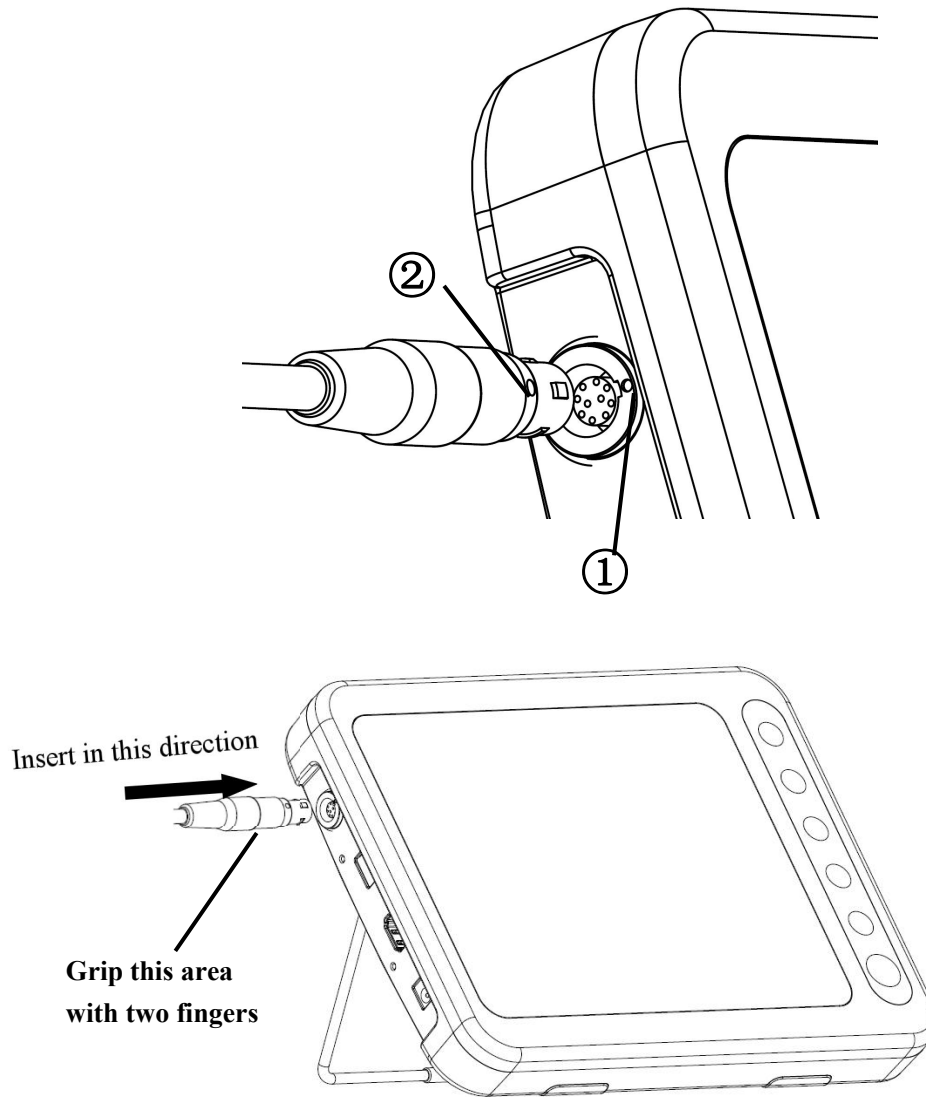

Figure 3-3. Connection of the signal connecting line and the display host
2. Find the alignment identification points of the signal connection port of the display and the connection socket of the display host identified in the previous step, as shown by ① and ② in Figure 3-3 below;
3. Align the two alignment points, and insert the connection socket of the display host of the signal connecting line (laryngoscope) into the signal connection interface of the display. Make sure the connection socket is fully inserted, as shown in Figure 3-3;